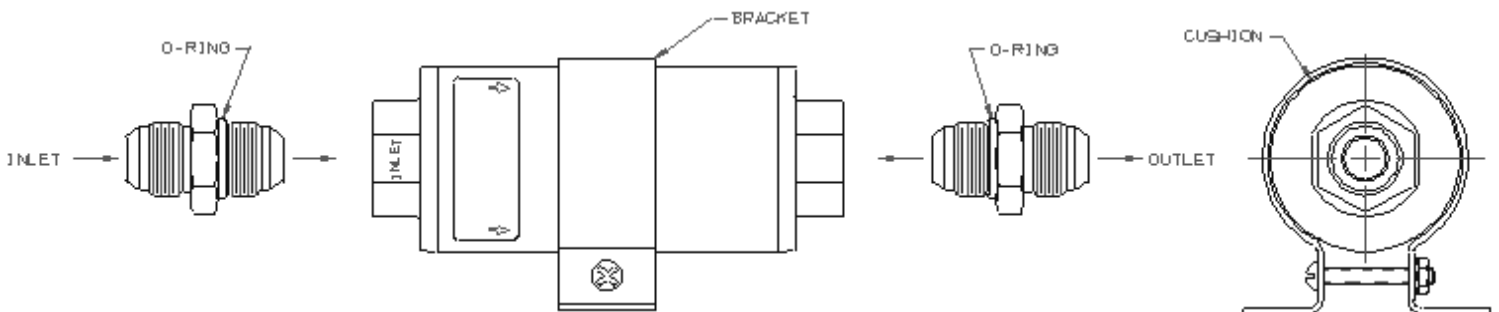

Figure 1 – SX Performance™ Model 41003 Filter Assembly.
4. Install the o-rings and fittings as shown in Figures 1.
5. Assemble the bracket, cushion, and filter as shown in Figures 1. Ensure that the filter is installed in the proper direction as indicated by the inlet and flow arrows.